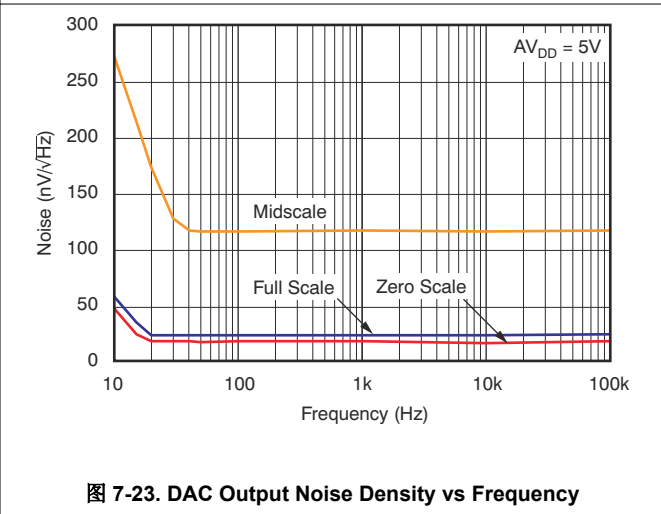

图 7-23. DAC Output Noise Density vs Frequency
- (1) Linearity calculated using a reduced code range of 3 to 252 for 8-bit, 12 to 1012 for 10bit, and 30 to 4050 for 12-bit, output unloaded.
- (2) Straight line passing through codes 3 and 252 for 8-bit, 12 and 1012 for 10-bit, and 30 and 4050 for 12-bit, output unloaded.
- (3) Specified by design and characterization, not production tested.
- (4) For more details, see Figure 7-23.